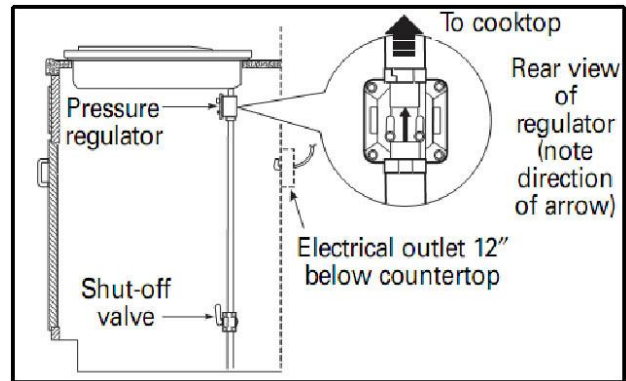

Figure 13
- If the cooktop is converted for **liquid petroleum (LP) gas**, the LP gas supply is required to provide a minimum of 10" to a maximum of 14" water column to the cooktop regulator.
• **⚠ The gas supply line must be equipped with an approved manual shut-off valve. In an easily accessible location in the same room as the cooktop. Do not block access to the shutoff valve. Be sure you know how and where to shut off the gas supply to the cooktop. Install the electrical outlet 12" below the countertop (see Figure 13).**